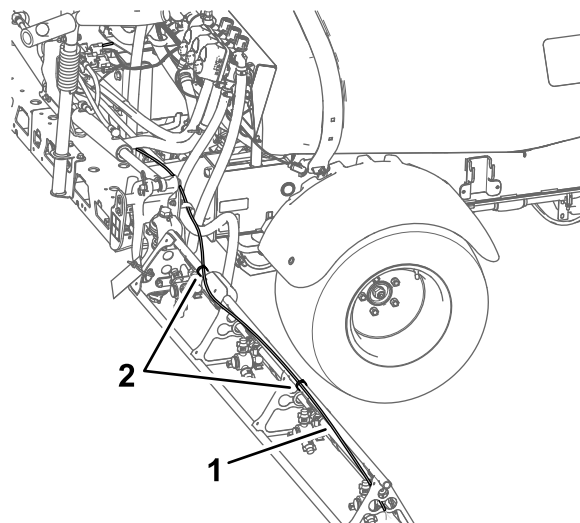

Figure 18
1. Remove the cable ties that secure the liquid and air tubes of the foam marker kit to the outer-spray section (Figure 18).